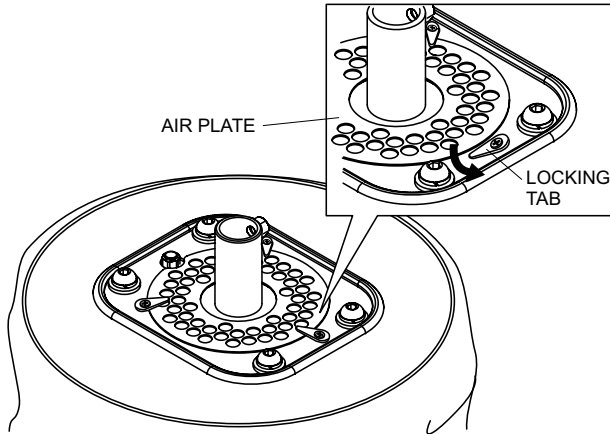

Figure 28. Accessing Filter
2. Turn the balloon/lamp assembly upside down to access the filter. See Figure 28.
3. Turn the three locking tabs outwards to release the air plate. See Figure 28.